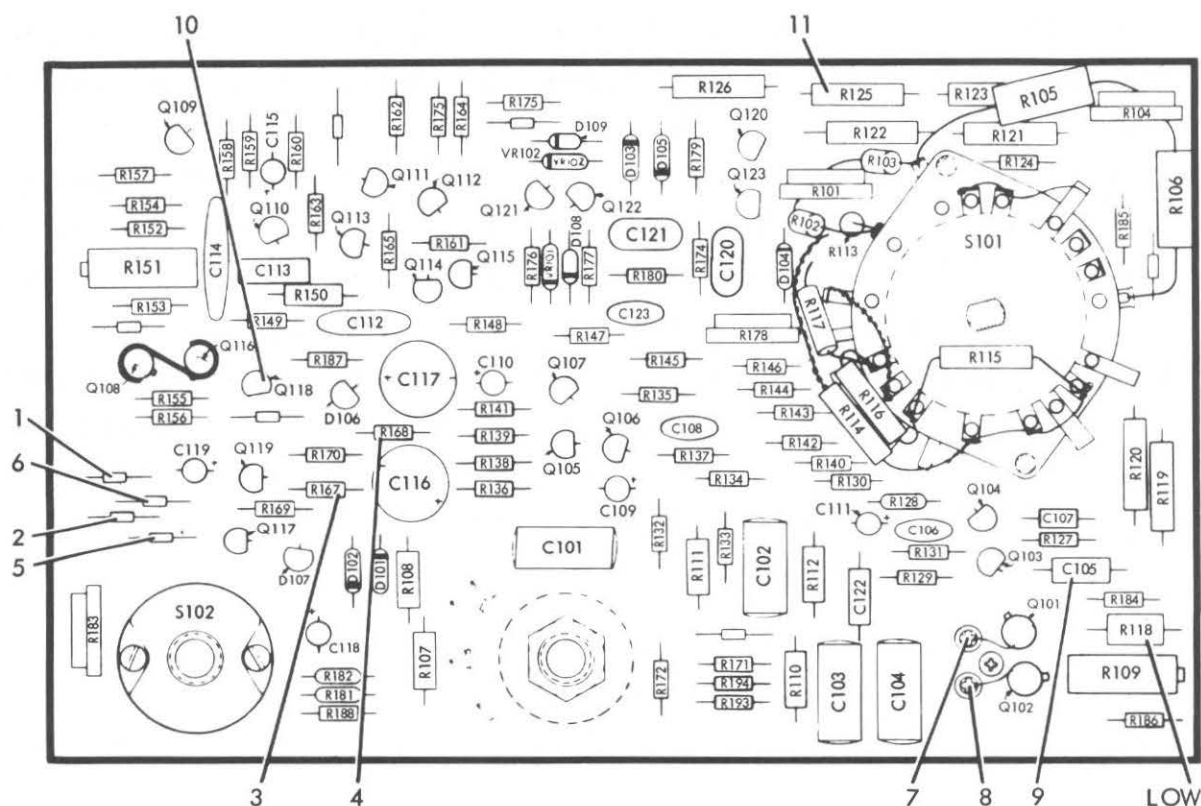

Figure 4-1. Detector Test Points
- Step 1. Connect the frequency counter between either test point 7 or 8 and COMMON (Figure 4-1). Adjust the multivibrator frequency set potentiometer, R178, for a reading of 220Hz \pm 3Hz.